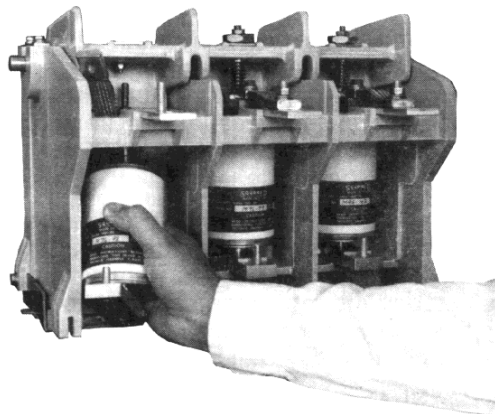

FIGURE 10
- 1) Place bottle assembly into contactor by putting top of bottle assembly behind the line bus (See Figure 10). Seat spring cup in recess at top of contactor.